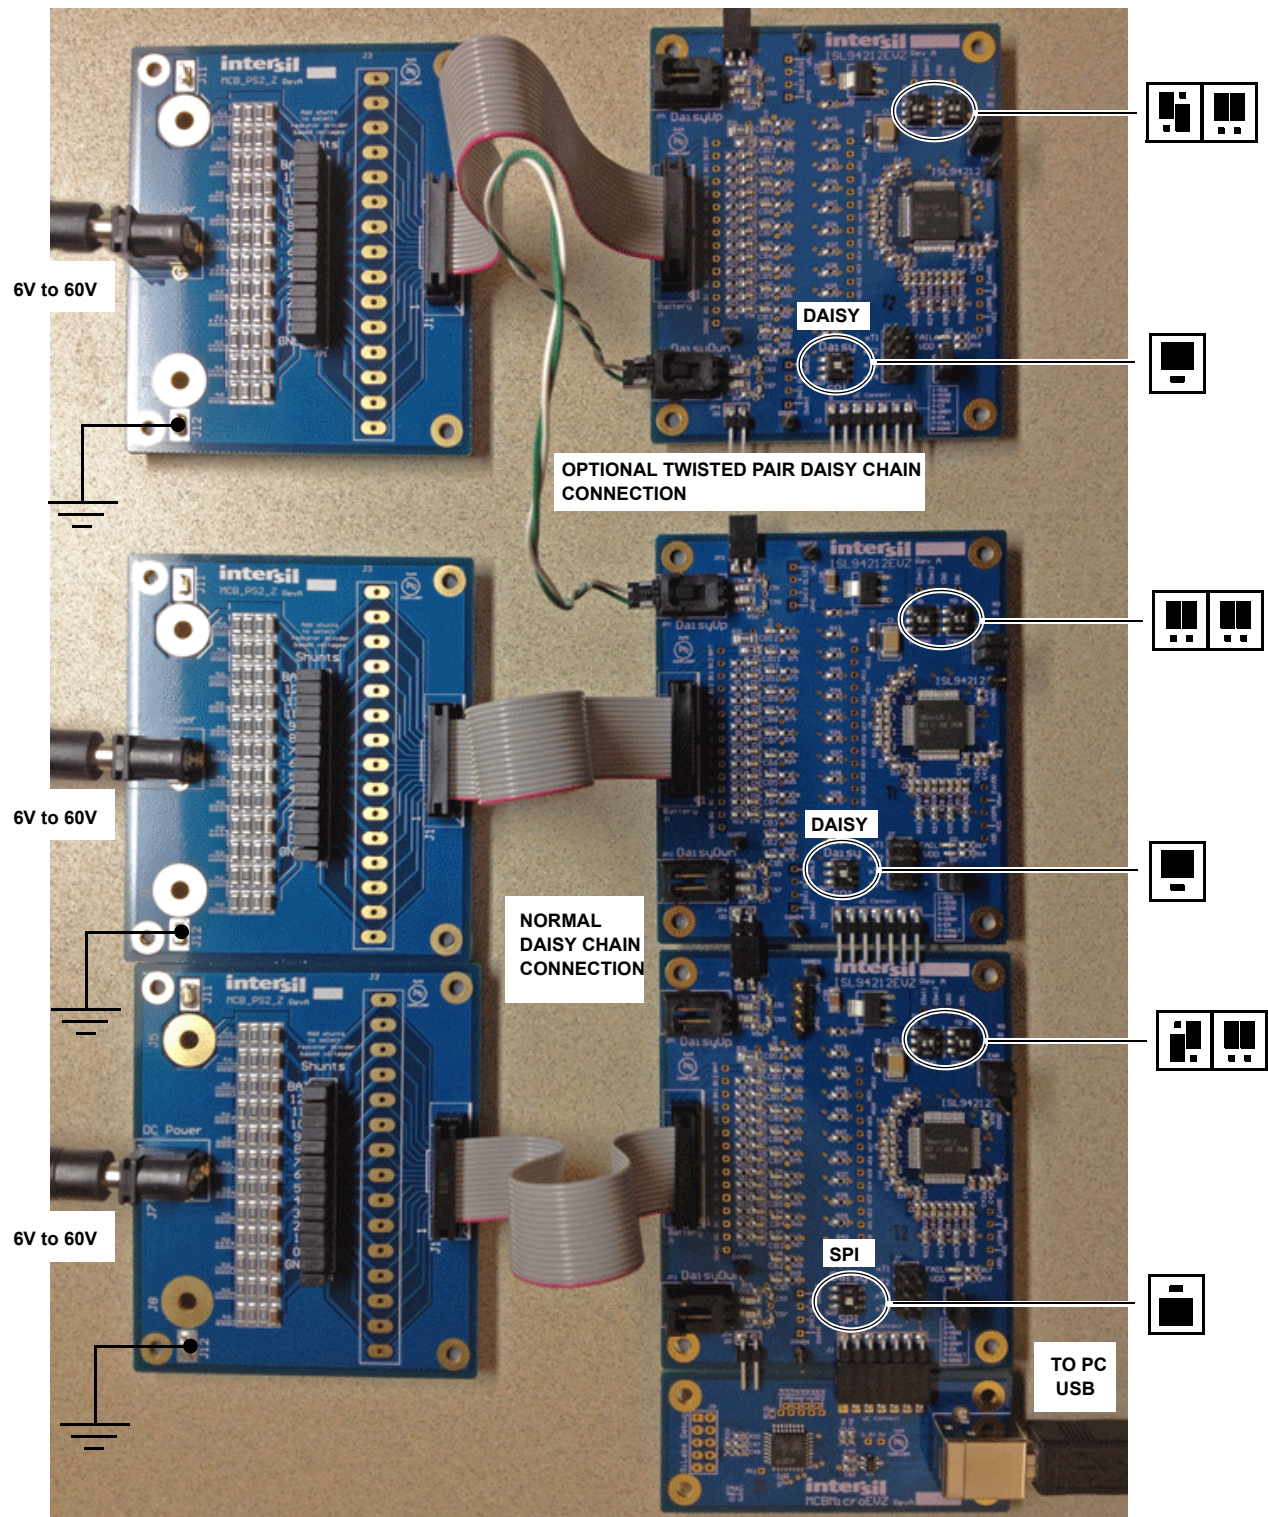
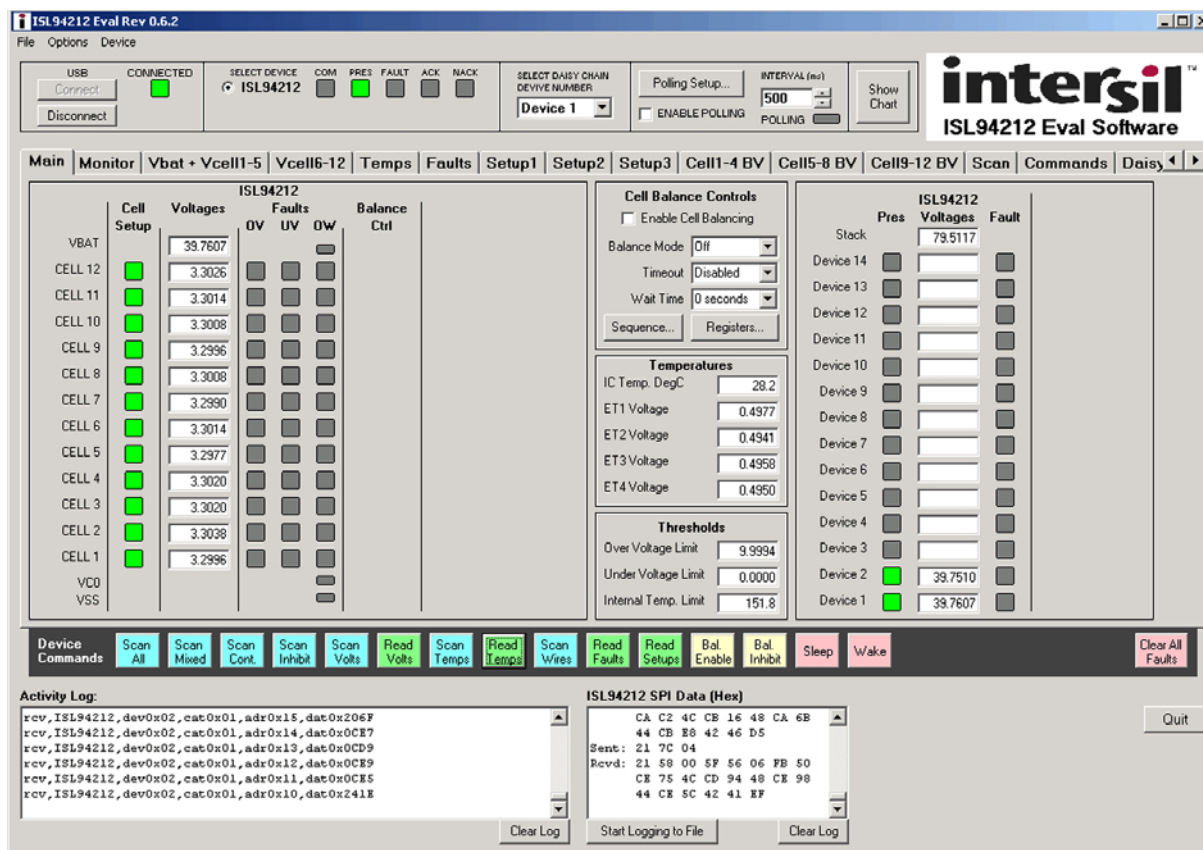

FIGURE 5. ISL94212EVZ IN 36-CELL DAISY CHAIN CONFIGURATION (SHOWN 1 ISL94212EVKIT1Z (MASTER) AND 2 ISL94212EV1Z (SLAVES))
FIGURE 6. MAIN GUI WINDOW - TWO CASCADED DEVICES
**Step 2:** Connect the MCB\_MICRO\_EVZ board (J1) to the Master ISL94212EVZ board (J2). (See Figure 5)
The boards can plug together to complete the daisy chain connections, or the enclosed twisted pair cable can connect the boards. Connect as shown in Table 2. See also the 36-cell daisy chain connection Figure 5 on page 7. For a 24-cell connection, drop out the Middle board.
- Step 3:** The GUI program identifies the devices connected, either in a single board, or a daisy chain configuration, (See Figure 6). NOTE: Figure 5 on page 7 shows the daisy chain configuration.